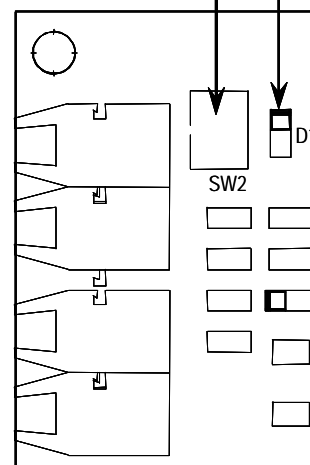

Figure 3.3 – Interface PCB
12. Open the switch **SW2** on the interface board (see Figure 3.3) before returning the unit to service. Ensure the red LED is off.